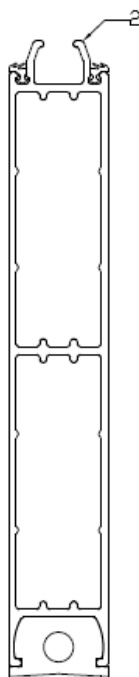

Figure 15
- Step 1: Remove the log from the frame (See Figure 15, part#2)